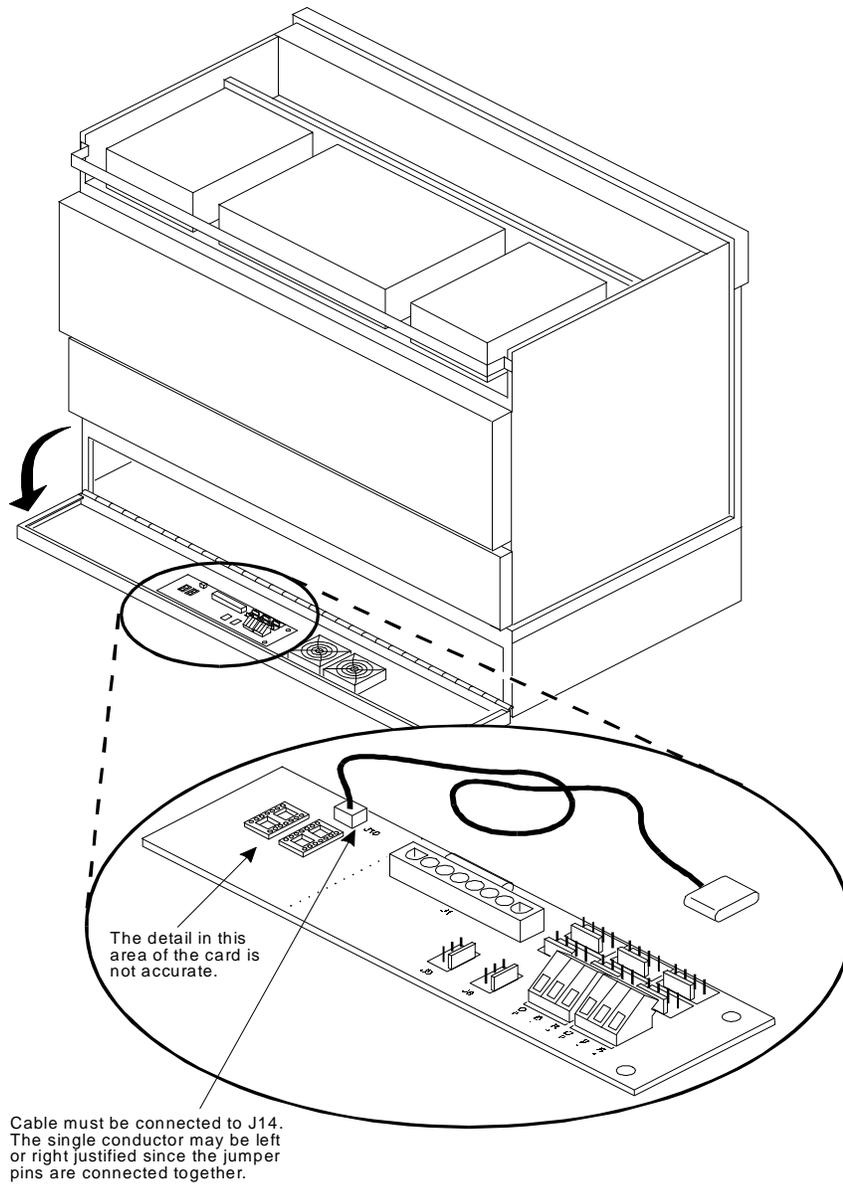
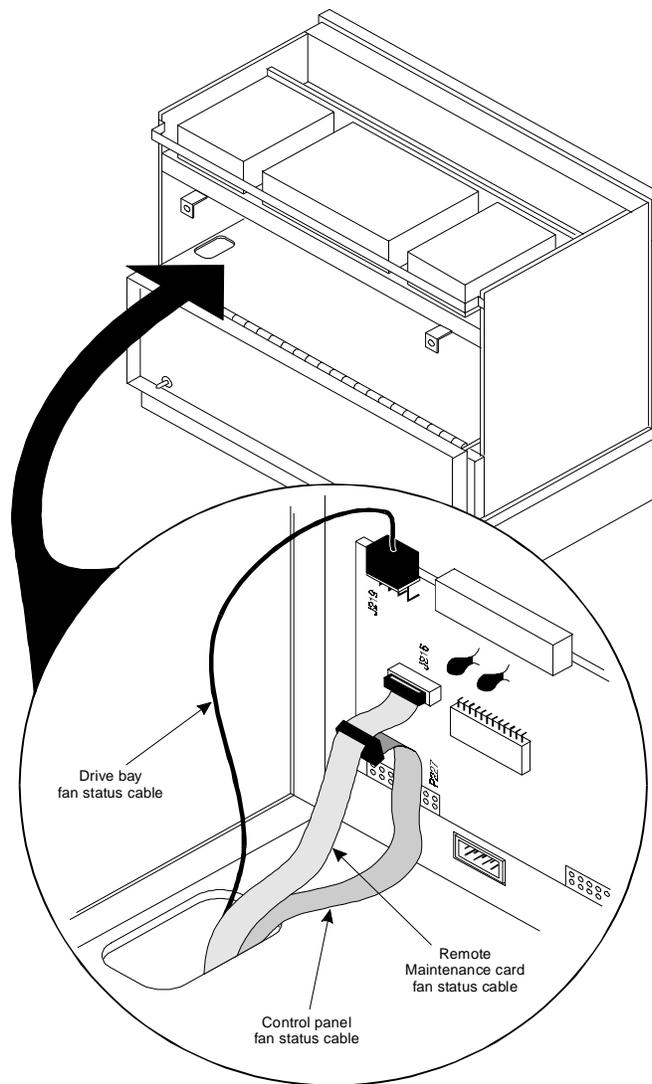

Figure 8-27. MAP/100C Fan Monitoring Circuit Card and Cabling
Figure 8-28. Remote Maintenance Circuit Card Fan Status Cabling
3. Verify that the drive bay fan status cable is connected to J14 on the fan monitoring circuit card as shown in Figure 8-27 and Figure 8-28. Ensure that the drive bay fan status cable is dressed through the portal into the card cage area.